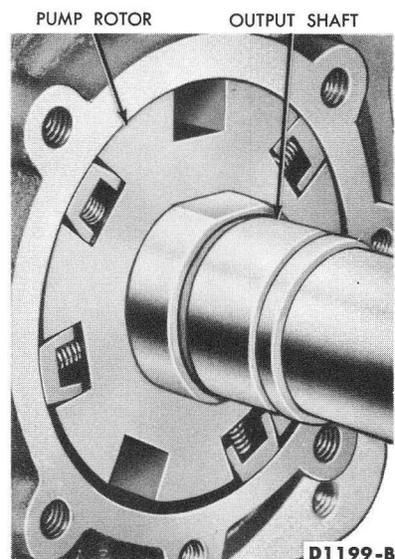

FIG. 26—Rear Pump Rotor Alignment
2. Install the governor pressure seal rings on the output shaft. The ring gaps should be at the top as the output shaft is installed. As the output shaft is installed, the flat surface which drives the rear pump must engage the rotor (Fig. 26).